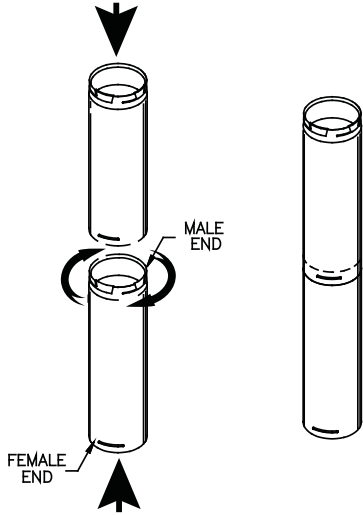
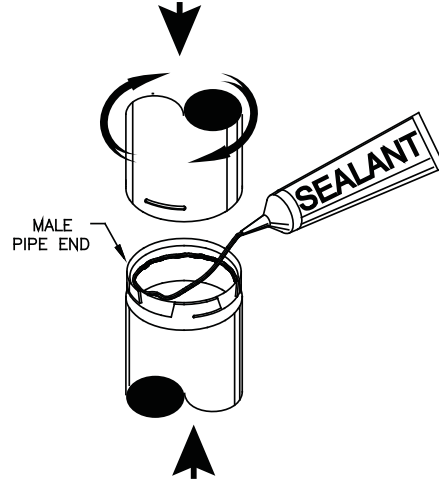

Figure 4
Figure 5
**D.** Connect Pipe Sections. Attach PelletVent Pro Pipe Sections by pushing male and female ends of pipe together and twisting until pipe is in locked position (**Figure 4**). PelletVent Pro pipe sections do not require any sealant; however in certain instances high temp silicone sealant may be used. Seal connection where the inner liners overlap for best results (**Figure 5**). Screws are not needed, but 1/4" screws can be used if desired, however, be sure you do not penetrate the inner liner.